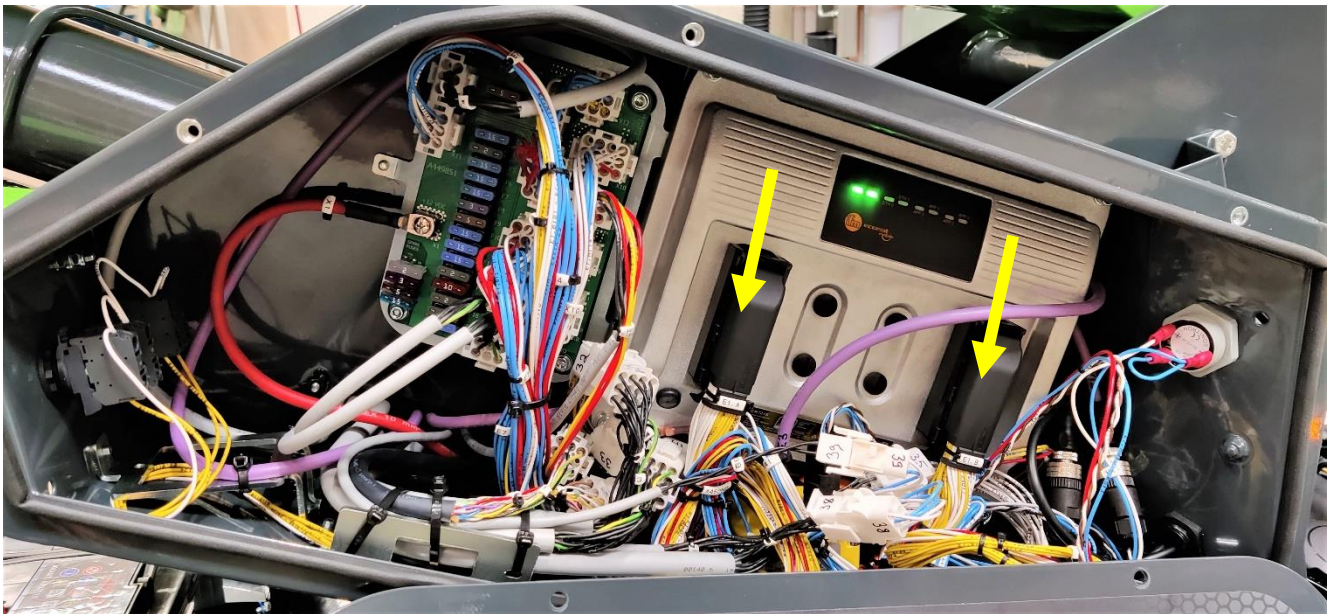

Figure 46. Connectors of the logic controller inside the lower control box
**Before welding** remove and cover the battery plus (+) and minus (-) terminals. Disconnect all connectors of the logic controllers (figure 46). Connect the earth terminal of the welding device directly to the part to be welded. Do not touch the logic controllers or electric cables with the welding electrode or earth terminal of the welding device. Protect the logic controllers from welding spatters.